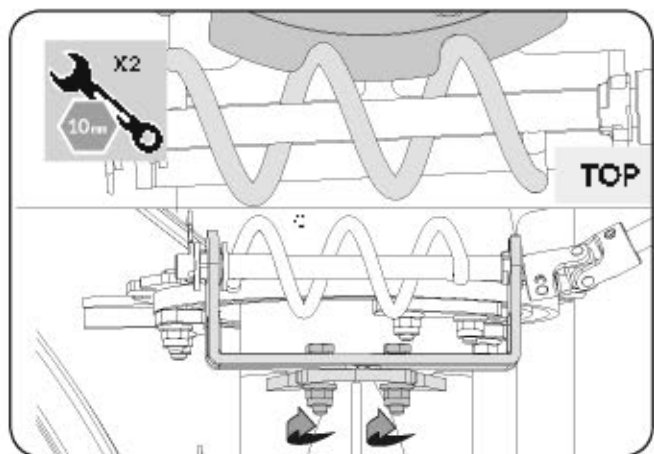

Figure 5b
- Make sure the spiral at the bottom fully engages with the chute crank flange (See **Figure 5b** TOP) and tighten the two bolts on the chute bracket. (See **Figure 5b**)